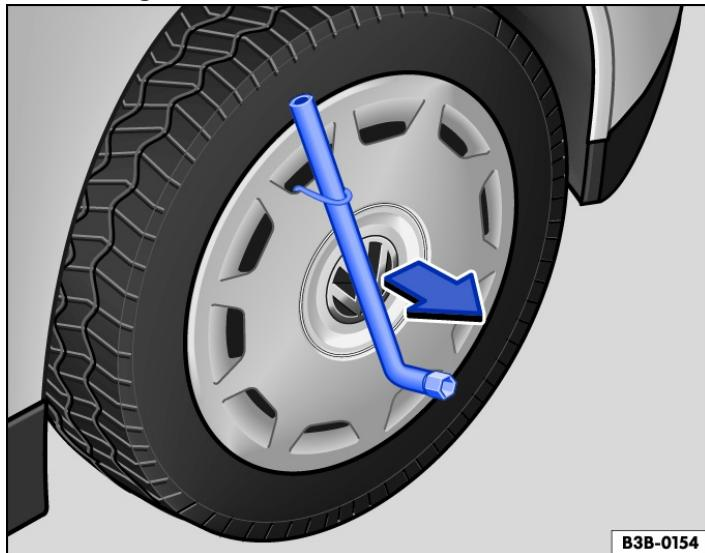

Fig. 1 Removing the wheel cover.
- Use the puller to pull off the wheel cover in the direction of the arrow. If necessary, use a box spanner to do this → Fig. 1.